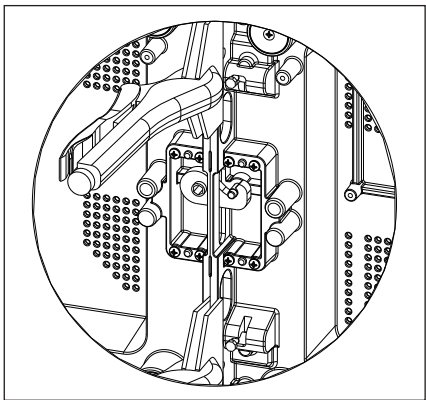

Figure 18: Engage Draw Latches
6. Engage the draw latches. Refer to **Figure 18**.